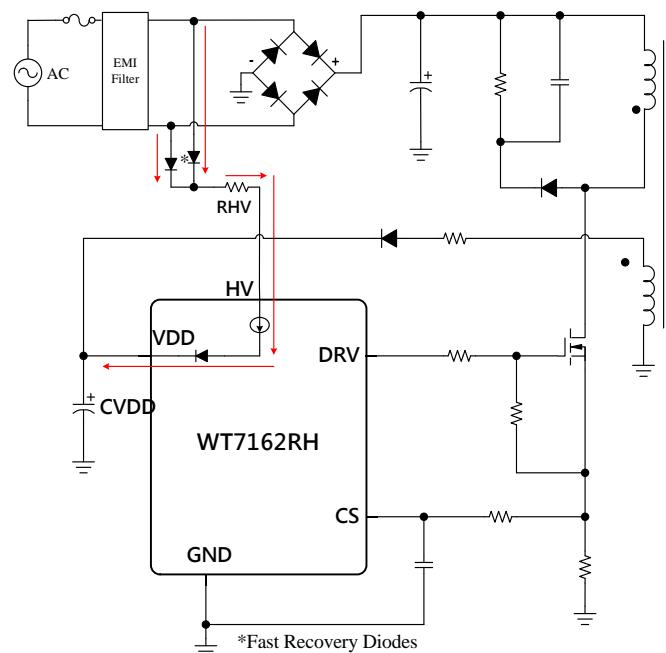

Fig. 5.1
The WT7162RH is implemented with a high-voltage startup circuit for fast start-up functions and reduce power dissipations, as shown in Fig. 5.1. At startup, the high-voltage current source sinks current from AC Line and Neutral to provide startup current and charge the capacitor CVDD which connected to VDD. At the startup transient, the HV current will charge VDD capacitor until this VDD voltage reaches the UVLO (ON) threshold. As VDD trips UVLO (OFF), HV pin will recharge VDD capacitor till VDD voltage rises back to UVLO (ON) again. The resistor RHV connected in series with HV pin is recommended in the range between 100Ω and 510Ω . Besides, it is recommended that the VDD capacitor CVDD connected with VDD pin is in the range from $22\mu F$ to $47\mu F$. It is important to note that it is not allowed to connect HV pin to any DC voltage. (e.g. directly to bulk capacitor)